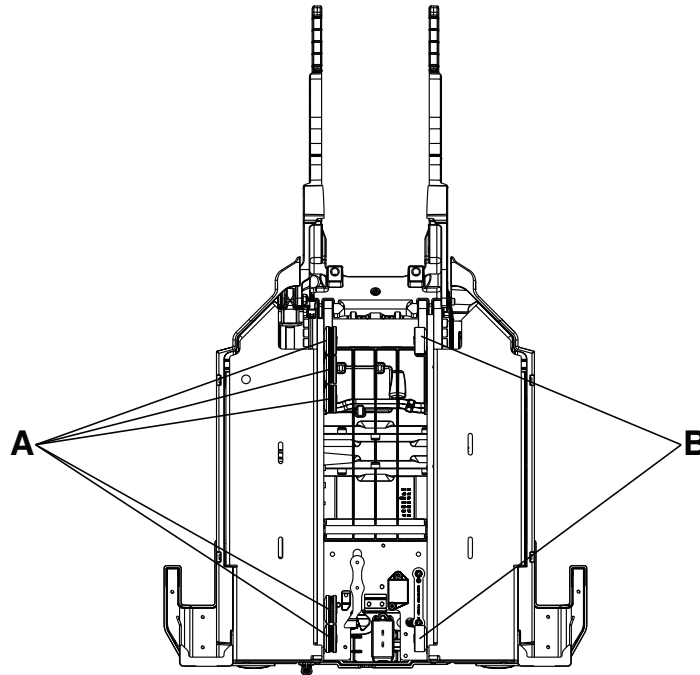

Figure 26 – Trolley bottom view of the V-guide rollers
2. Carefully set the trolley upright on its head end (Figure 26).
Note - The V-guide rollers are on the patient right side (five rollers) (A) and the flat rollers are on the patient left side (two rollers) (B) (Figure 26).